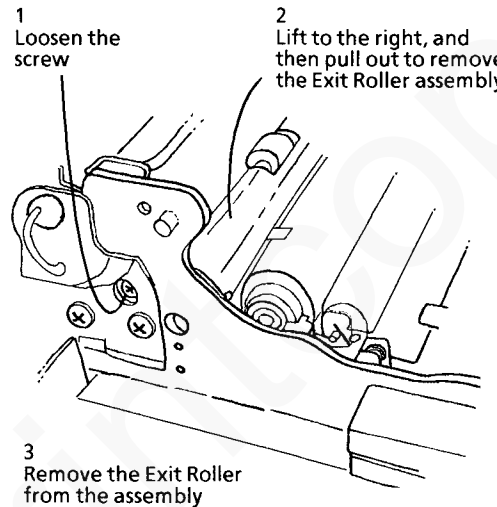

Figure 1. Removing the Exit Roller
3. Remove the Exit Roller (Figure 1).